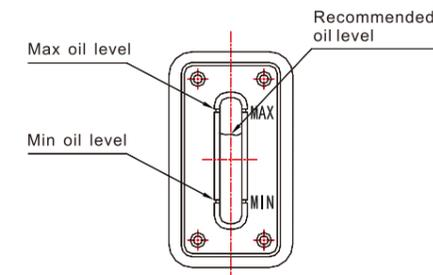

Fig. 6
- 1) The oil level shall be always kept between position MAX and MIN of oil sight glass during operation (refer to Fig. 6). Add oil when the oil level is lower than position MIN and discharge oil by removing the oil drain plug (refer to Fig. 1) when the oil level is above position MAX.